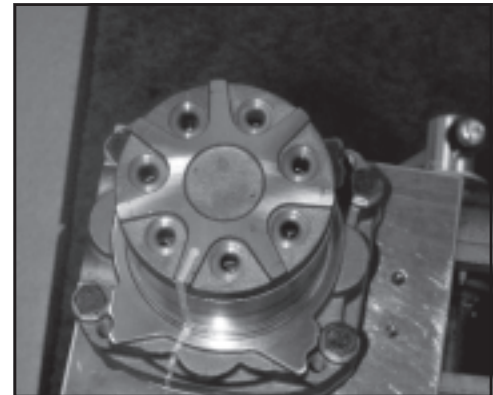

Figure D3
4. Remove the seven hex bolts from the hydraulic motor and disassemble motor. Inspect motor components for abnormal wear or damage. Replace any worn or damaged parts. SEE FIGURE D3